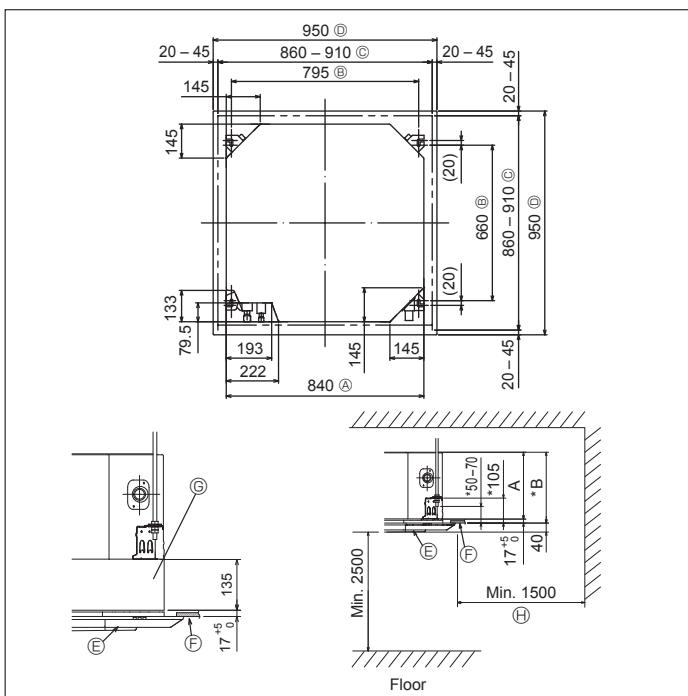

Fig. 3-2
③	Pipe cover (for refrigerant piping joint) Small diameter Large diameter	1 1
④	Band (large)	8
⑤	Band (small)	1
⑥	Drain socket	1
⑦	Insulation	1
3.2. Ceiling openings and suspension bolt installation locations (Fig. 3-2)
- * The dimensions of ceiling opening can be regulated within the range shown in Fig. 3-2; so center the main unit against the opening of ceiling, ensuring that the respective opposite sides on all sides of the clearance between them becomes identical.